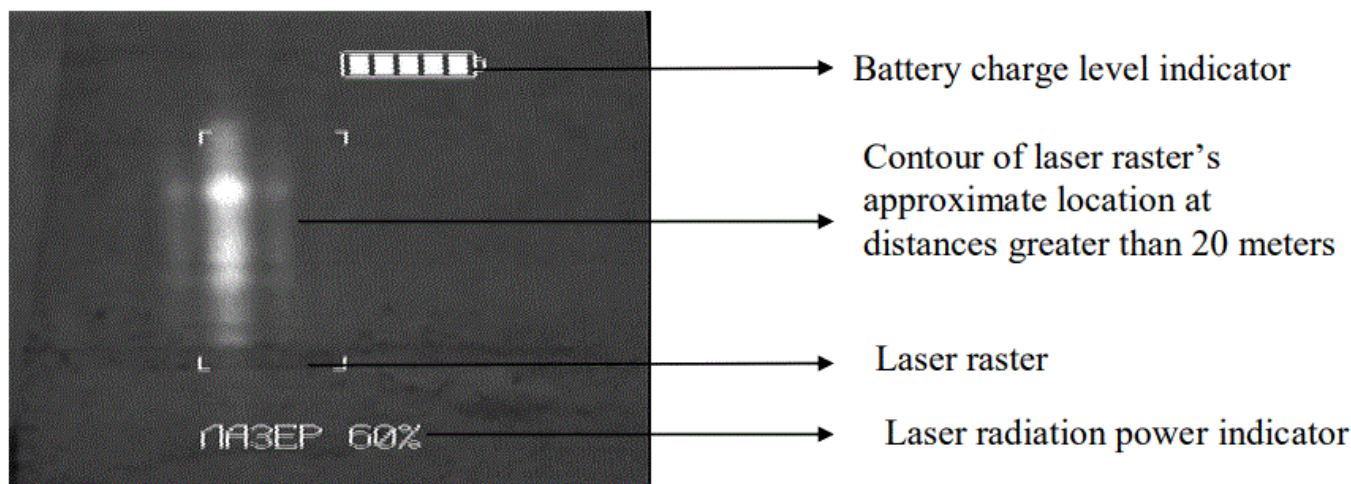

Fig.3. Example of image obtained with help of SPIN-2
6. The level of battery charge is indicated in the right top corner of the image (Fig. 3). When the battery is flat the instrument is automatically switched off. To switch the laser illumination on press and keep pressing the corresponding control button. When using the instrument the observer looks through its binoculars trying to detect the searched object (ESS) and as a result of a successful search to visualize on a monitor screen or in a viewfinder the places of location of intensive glowing dots (flares) upon less bright scanning field background. In cases when outside the scanning field such glowing dots (flares) disappear they can be interpreted as potential ESS. If flares do not disappear when laser illumination is switched off they are not considered as potential ESS.
7. An example of an image obtained by moving it on the wall from a distance of 15 m is shown in Figure 3.